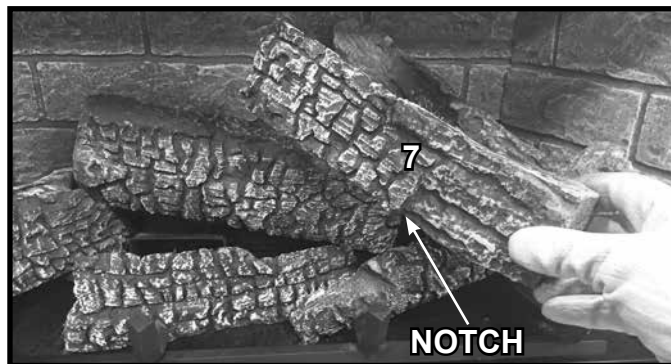

Figure 22. Log #7
**LOG #7:** Locate the notch on Log #7. See Figure 22. Place notch over grate tine and burnout end of log on notch of Log #4. See Figure 23.